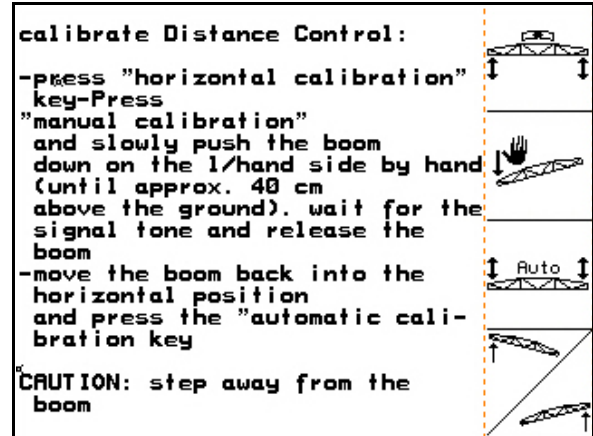

Fig. 18
1.  (Fig. 18) Start the automatic calibration.